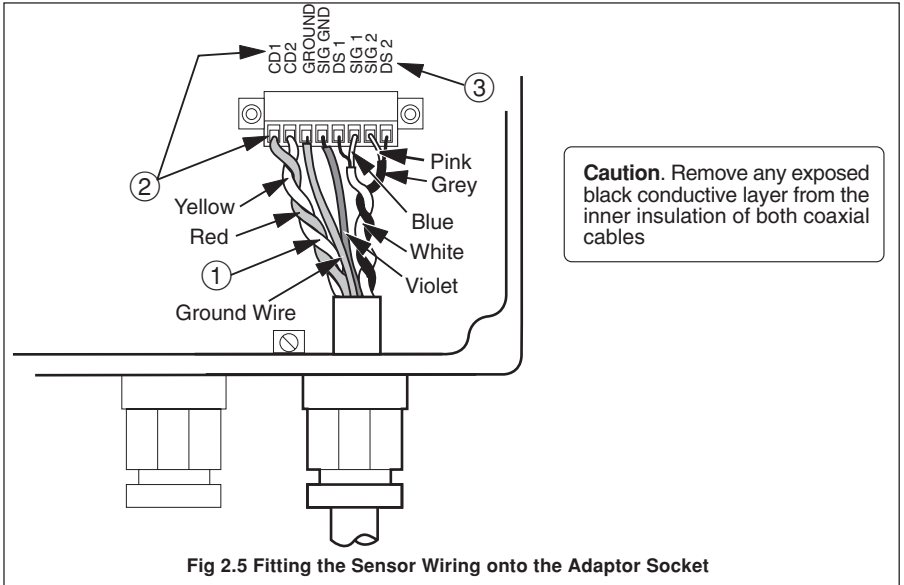

Fig 2.5 Fitting the Sensor Wiring onto the Adaptor Socket
2.2.3 Wiring the Adaptor Socket (Fig. 2.5)
- ① Adjust the wire lengths of the sensor cable to allow for termination and subsequent removal of the adaptor socket.
- ② Insert the sensor cable wiring into the socket as shown in Fig 2.5, and tighten the plug screws with the screwdriver provided.